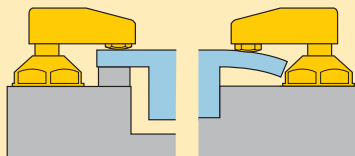

Figure 6
- The workpiece should only be exposed to a clamping force if it is appropriately supported by a solid bearing point, as illustrated in Figure 6.